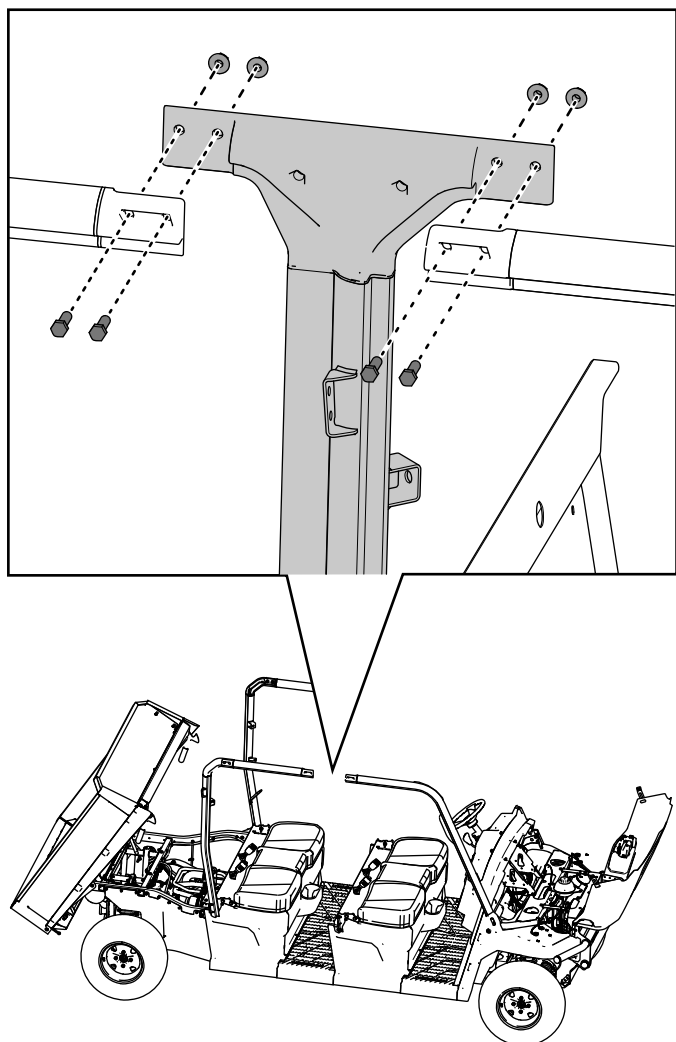

Figure 46
12. Loosely secure the top of the right, middle roll bar assembly to the right, front and rear roll bar assemblies using 4 hex-head bolts ($\frac{3}{8}$ x 1- $\frac{1}{4}$ inches) and 4 locknuts ($\frac{3}{8}$ inch) as shown in Figure 46.